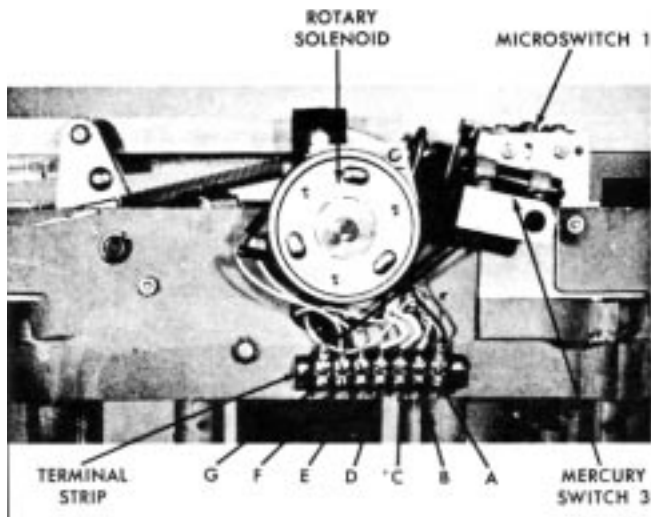

Figure 23
5. Disconnect the seven leads connected to the lower terminal strip of the terminal block attached to the recloser frame, figure 23. Be sure to label these seven leads corresponding to the terminals from which they are disconnected. Terminals are lettered A through G. *right to left*.
Refer to figures 23, 30, 31, 32, 33 and 36 for identification of microswitch 1, mercury switches 2 and 3, rotary solenoid, trip solenoid, bushing current transformers, terminal strip, and the configuration of pinsockets of the control-cable receptacle on the head casting. The components are checked out under the three following conditions: